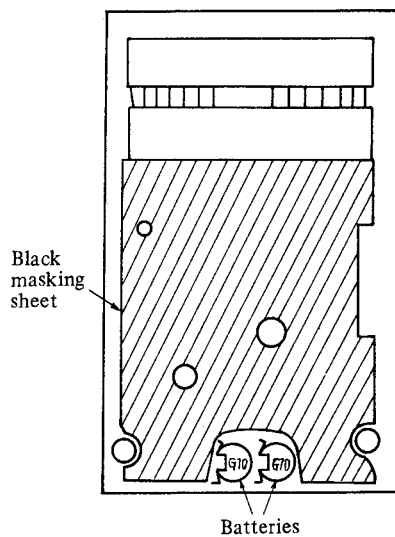

Fig. 2
3. Pull out the two batteries (Fig. 2).
4. Carefully peel off the black masking sheet which is applied to the chassis. (Fig. 2)